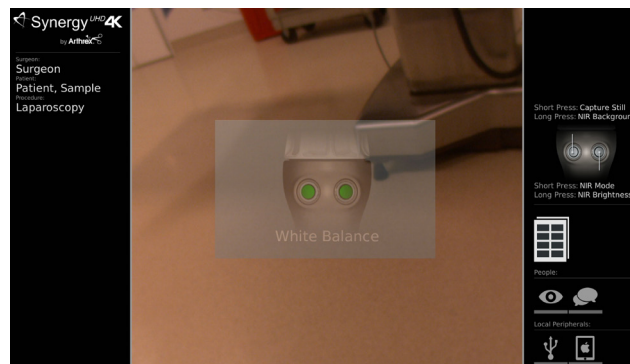

Figure 34 – Synergy^D Initial Screen
2. The camera will take approximately 60 seconds to fully load its boot software. When the software has fully loaded, you will see the Synergy^D initial screen shown below in Figure 34.
15. Once the White Balance Operation has been successfully completed, the Camera Head buttons will function as defined on the Synergy^{HD} initial screen Figure 34.